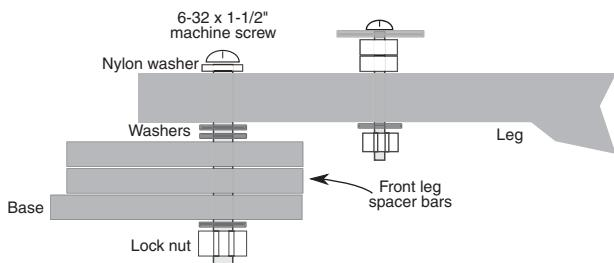

Figure 27-18 Assembly detail for attaching the front legs to the Hex3Bot base. Assemble both the right and the left front legs in the same fashion.
8. Use a $6/32 \times 1-1/2"$ machine screw, washers, and $6/32$ locking nut to attach the front left leg to the base. Place the two front leg spacer bars between the bottom of the leg piece and the base. Don't forget the washers, as shown in Figure 27-18.